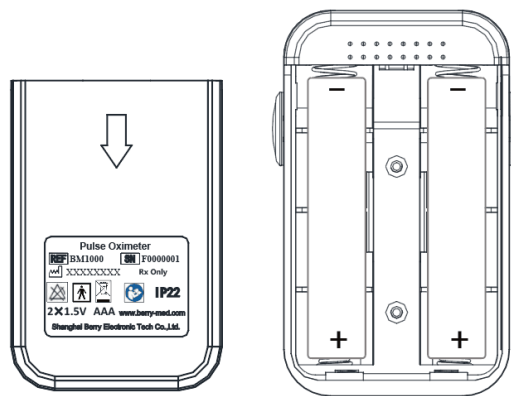

Figure 3
2. Install batteries into the slots according to the "+" and "-" symbols as shown in **Figure 3**. Cover the lid onto the battery compartment and push it upwards to make it close.